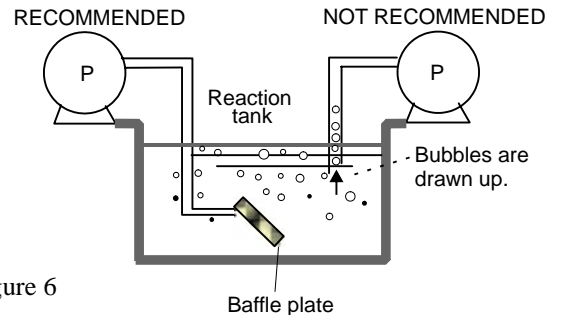

Figure 6
- In case of suction lift system (Figure 6)